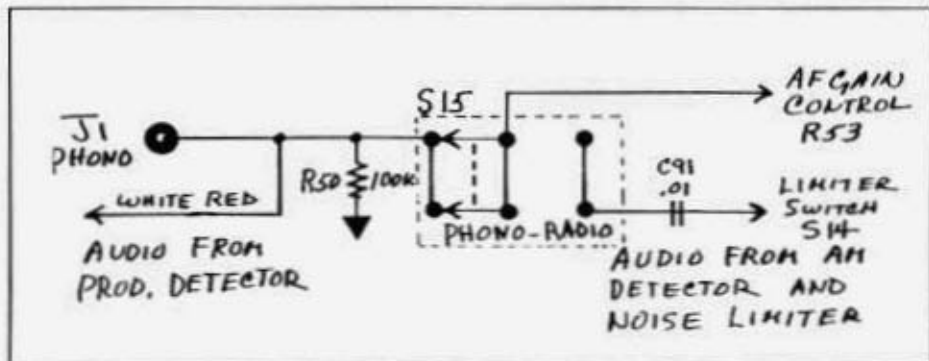

Figure 3, S15 PHONO-RADIO switch modification.
26) Locate the white wire that is attached to the PHONO-RADIO Switch (S15), disconnect it, lengthen it and connect it to the now open terminal of the AVC-MVC switch (S12). See Figure 3.